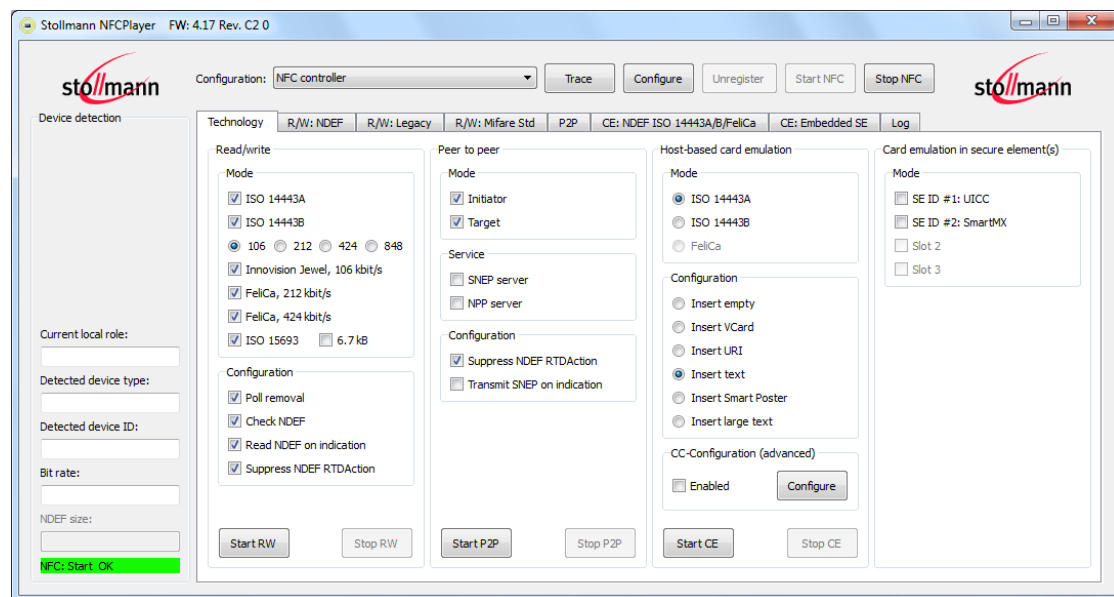

Figure 1: NFaCe+SPA Evaluation Application: Main dialog
The Stollmann NFaCe+SPA Evaluation Application (NFCPlayer, figure 1) demonstrates the functionality of the Stollmann NFCStack+ (NFaCe+SPA) on an application user interface. It enables the user to perform reading, writing and formatting operations on NFC tags (R/W), host-based card emulation (CE), peer-to-peer data communication (P2P), and secure elements (SE). For further details, see section 3.6.